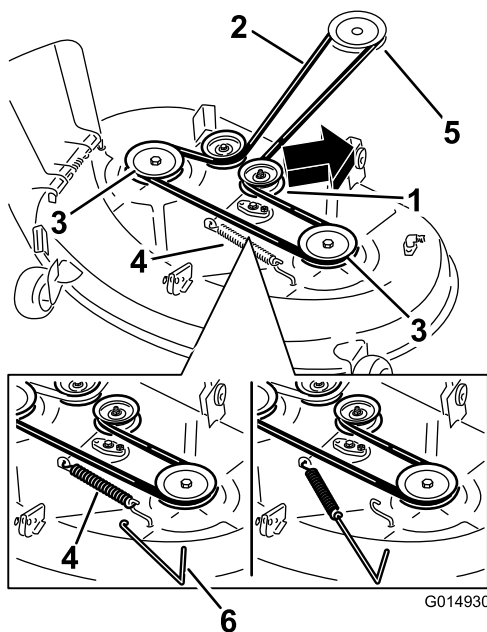
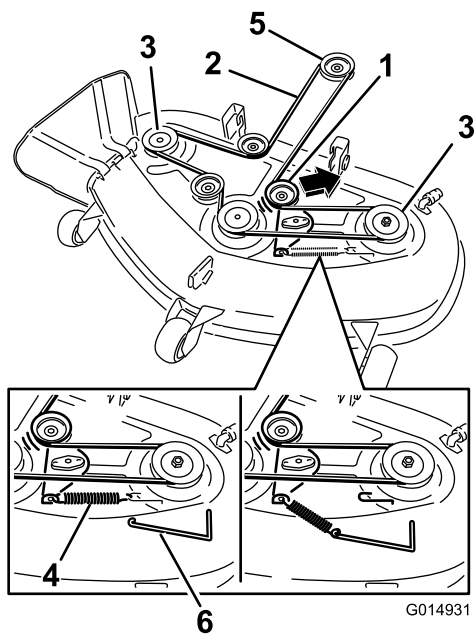

Figure 69
Figure 70
4. Using a spring removal tool, (Toro part no. 92-5771), remove the idler spring from the deck hook to remove tension on the idler pulley and roll the belt off of the pulleys (Figure 69 and Figure 70).
- Route the new belt around the engine pulley and mower pulleys (Figure 70).
- Using a spring removal tool, (Toro part no. 92-5771), install the idler spring over the deck hook and placing tension on the idler pulley and mower belt ((Figure 69 and Figure 70)).